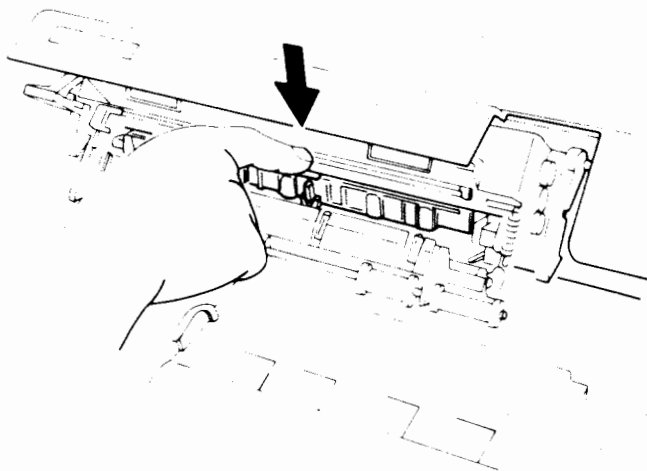

Figure 7-8 Installing the cleaning pad
6. Place the new cleaning pad (with the felt side towards the heat roller) into the housing, as shown in Figure 7-8. Align the tab near the center in the V-shaped groove. Make sure that the pad is firmly seated in the housing.